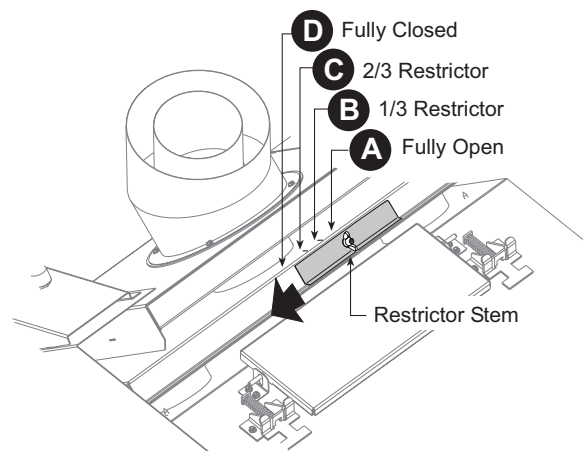

Figure 5. Exhaust Restriction adjustment; slide shutter stem to left to increase restriction.
The GF 600 DV II Firelight features a sliding shutter that allows exhaust vent restriction adjustment from outside the firebox. See fig. 5. The shutter is set in the fully open position (A) at the factory.
2. Loosen the wingnut on the Restrictor Stem and push it to the left to align with the hash marks on the exhaust manifold that correspond with the appropriate setting, (B, C, or D). See figs 5 and 9.